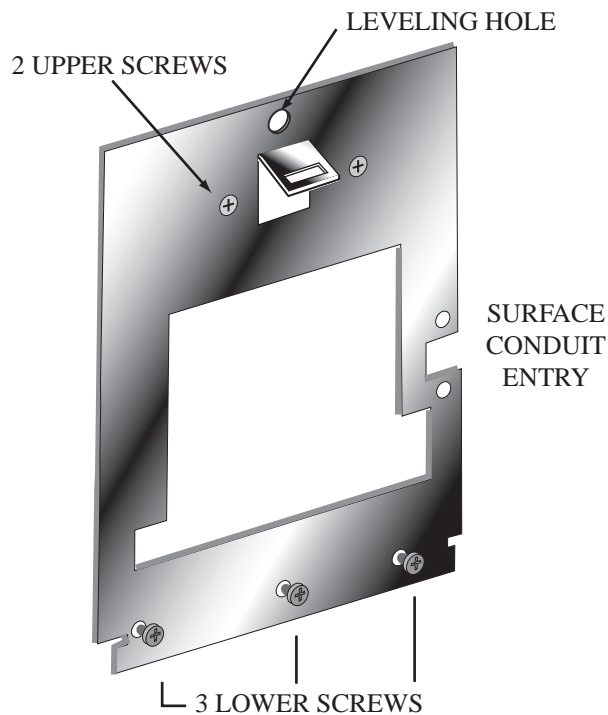

Figure 12-1: Wall Plate
1. Remove the wall plate from the packing carton. Refer to Figure 12-1 for all wall plate references in the following section.